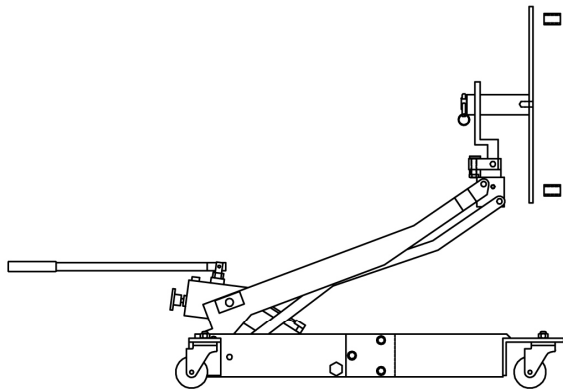

FIGURE 3
1. Install the CC2051 Flywheel Adapter onto the Clutch Caddy. Place the Adapter into the position shown in Figure 3.
2. Remove all but two (2) opposing bolts attaching the flywheel to the crankshaft.